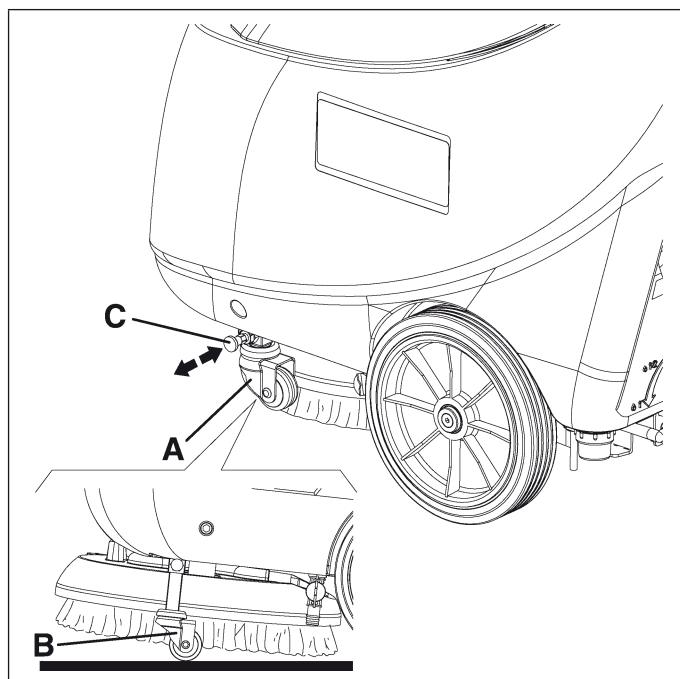

Figure 9
11. Lift the brush/pad by activating (B, Fig. 9) the transport/parking device (A) after inserting the relevant pin (C).